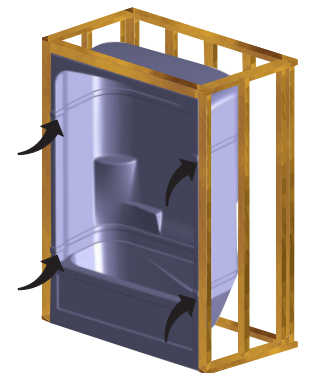

FIGURE 12
9. Should gaps be visible at top and or bottom seams, adjust the area by applying moderate force at the arrows shown in Figure 12.